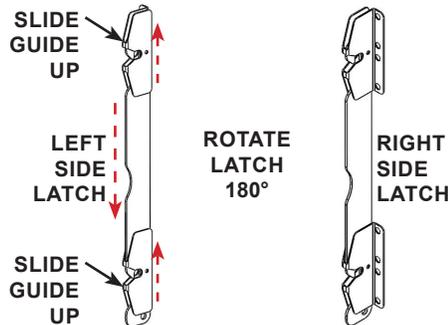

FIGURE 3.11 - Latch Assembly Rotate
STEP 4: Flip, rotate the latch assembly so the latch bar is on the inside of the cage frame and that both latch guides are in the top position. See FIGURE 3.11